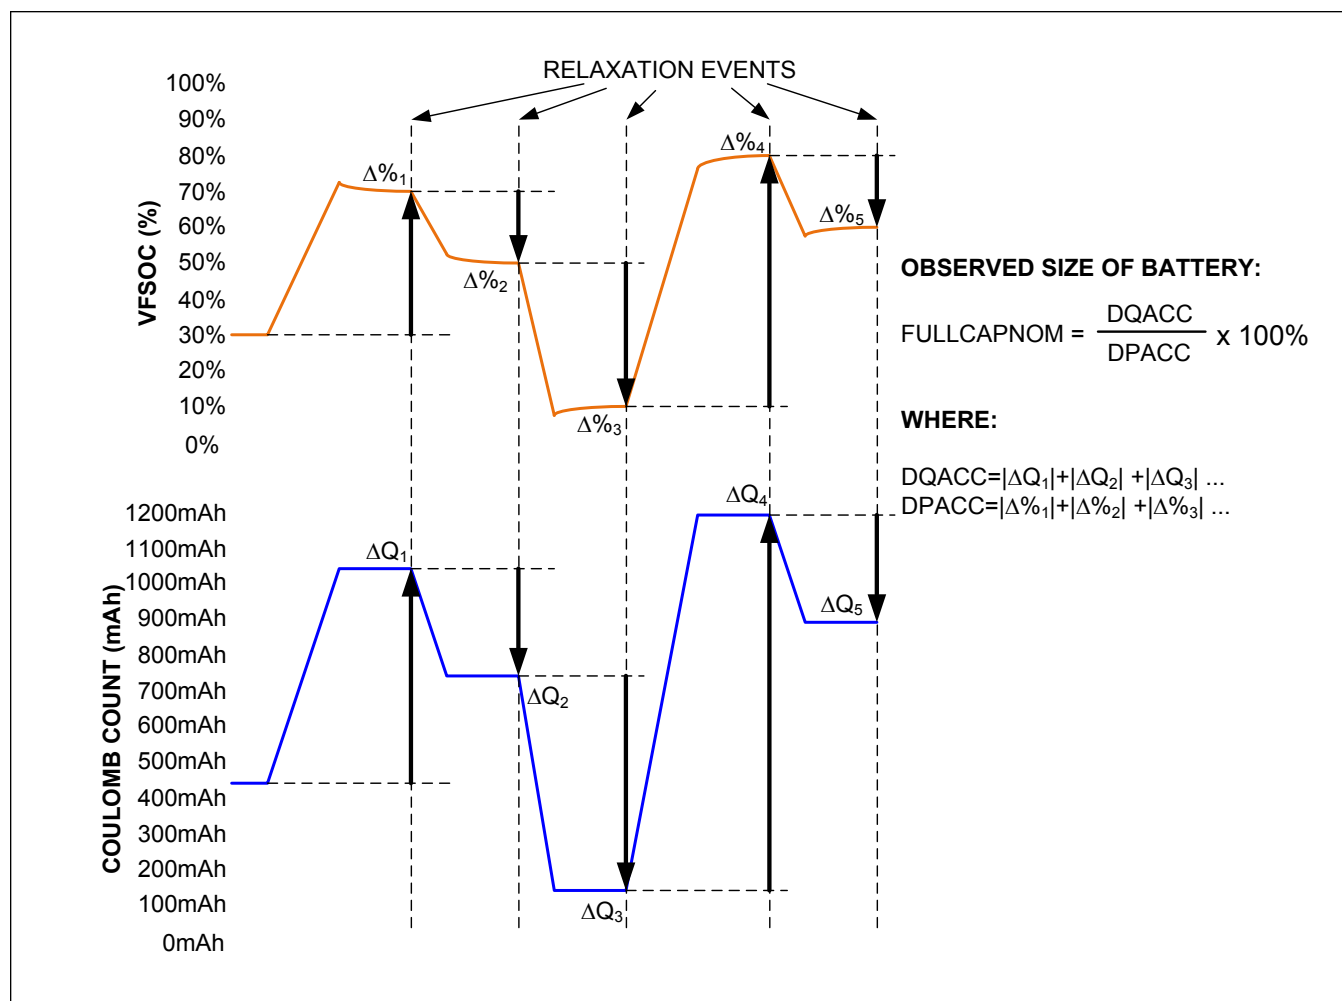

Figure 22. FullCapNom Learning
- **Cell Capacity (FullCapNom Register):** This is the total cell capacity at full, according to the voltage fuel gauge. This includes some capacity that is not available to the application at high loads and/or low temperature. The IC periodically compares percent change based on an open circuit voltage measurement verses coulomb-count change as the cell charges and discharges, maintaining an accurate estimation of the pack capacity in milliamp-hours as the pack ages. See Figure 22.